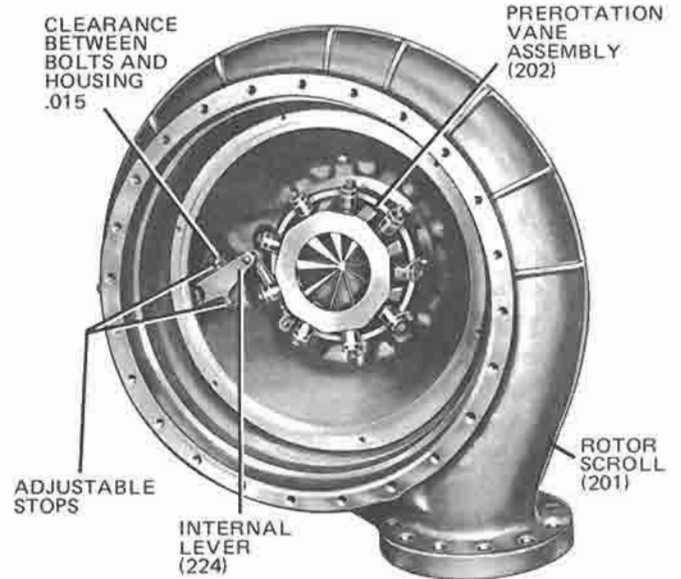

FIG. 56 — ROTOR SCROLL SHOWING PRV ASSEMBLY
2. Remove the 12 pt. hd. cap screws (59) which secure the nozzle base plate (205) to the rotor scroll, and pull the nozzle base plate out of the compressor. Fig. 56 shows a rotor scroll (201) with the impeller eye seal, PRV assembly, and diffuser components removed. The impeller seal consists of a seal ring (207) and spring washer (208), held in place in the nozzle base plate by means of an inlet oil seal retaining ring (209).
3. Remove the 12 pt. hd. cap screws which hold the prerotation vane assembly (202) in the rotor scroll (201) and lift out the prerotation vane assembly (202). (See Fig. 56). The vanes are actuated by a rotating vane driving ring through individual vane arms to each vane. Individual vanes may be removed by removing the cap screw which secures the vane arm to the vane, lifting off the vane arm with the cap screw which secures the vane arm to the vane, lifting off the vane arm with the two special washers and pulling the vane out toward the inside of the vane housing.
4. Reassemble the prerotation vane assembly (202), and impeller seal following the above steps in reverse with special attention to the following: